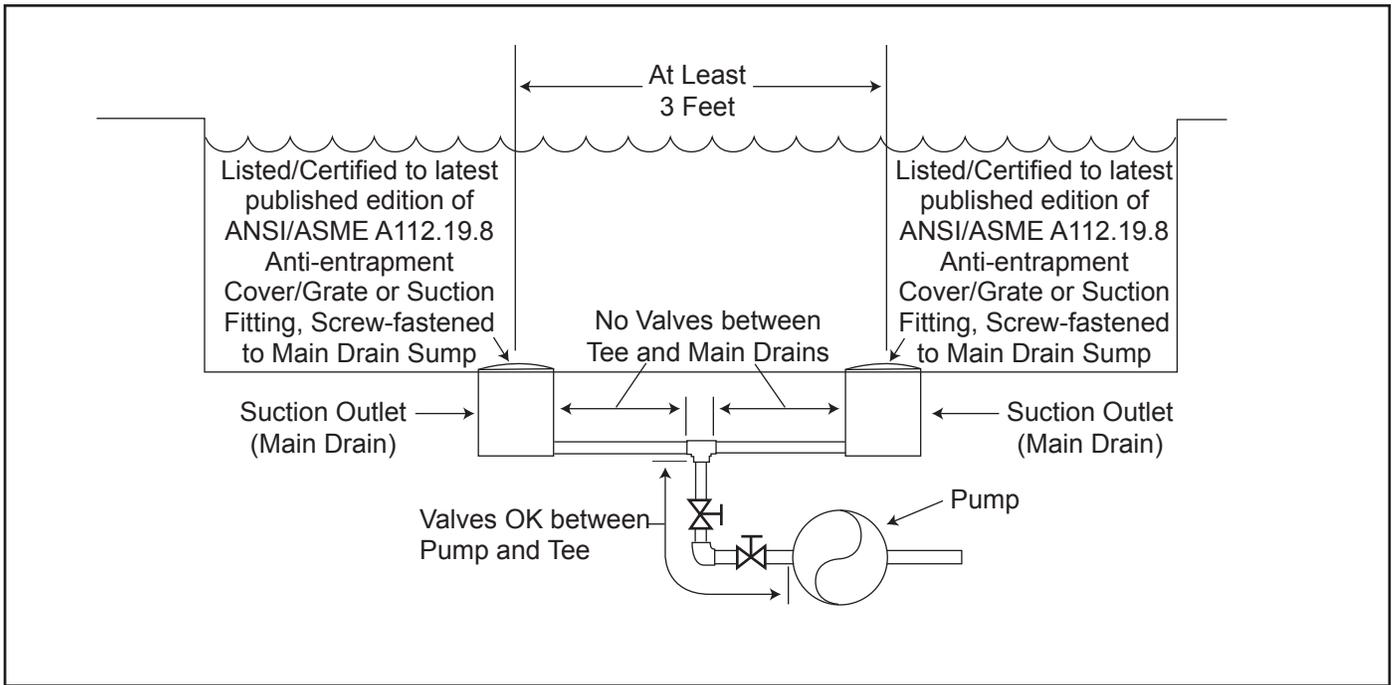

Figure 1. Number of Suction Outlets Per Pump
Number of Suction Outlets Per Pump - Provide at least two (2) hydraulically-balanced main drains, with covers, as suction outlets for each circulating pump suction line. The centers of the main drains (suction outlets) on any one (1) suction line must be at least three (3) feet apart, center to center. See Figure 1.
The system **must** be built to include at least two (2) suction outlets (drains) connected to the pump whenever the pump is running. However, if two (2) main drains run into a single suction line, the single suction line may be equipped with a valve that will shut off both main drains from the pump. The system shall be constructed such that it shall not allow for separate or independent shutoff or isolation of each drain. See Figure 1.
As shown in Figure 1, preset speed "☆" is assigned to the "eStar" feature. Hence, it is intended to be assigned an energy-efficient filtration speed, as determined by the installer.